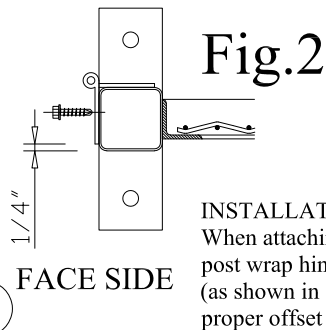
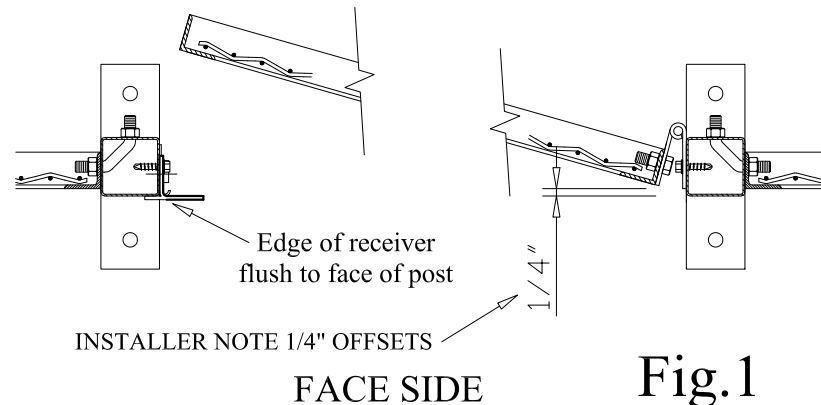

Fig. 2
Fig. 1
1. Install transom panel (A) at top of door opening, check opening width at floor, and anchor posts to floor. Check that posts are plumb and opening is square.
2. Attach hinges (B) to door post (C) using two self drilling screws per hinge.
- a. Note hinge placement offset detailed in Fig. 1 and install tip in Fig. 2.
3. Attach door panel (D) to hinges with two 3/8" x 1" bolts and nuts.
4. Attach pick plate (E) to door post (F) using four self drilling screws.
- a. Note pick plate position offset detailed in Fig 1.
6. Attach cylinder lock receiver (G) to door post (F) with two self-drilling screws.
7. Align padlock lug (H) with door padlock lug on door (D) and attach to post (F) with two self drilling screws. See page 11 for Bolt-On Angle Padlock Lugs.
- a. Note hinge placement offset detailed in Fig 1 and install tip in Fig. 2.
4. Attach pick plate (E) to door panel (D) using four self drilling screws. Note offset in Fig 1.